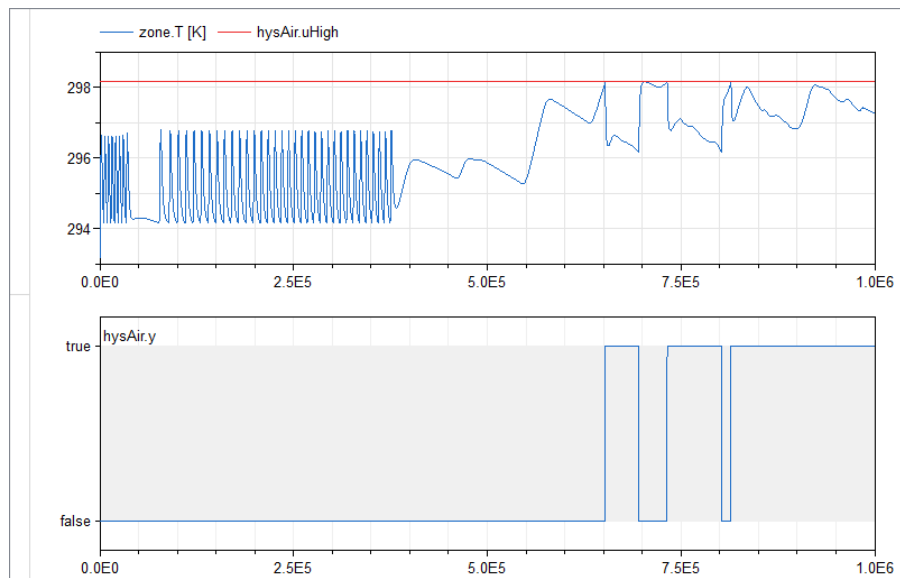

Figure 10: Air temperature, hysteresis controller upper bound and hysteresis output signal as function of time in seconds.
**Reference result** Figure 10 shows the result.